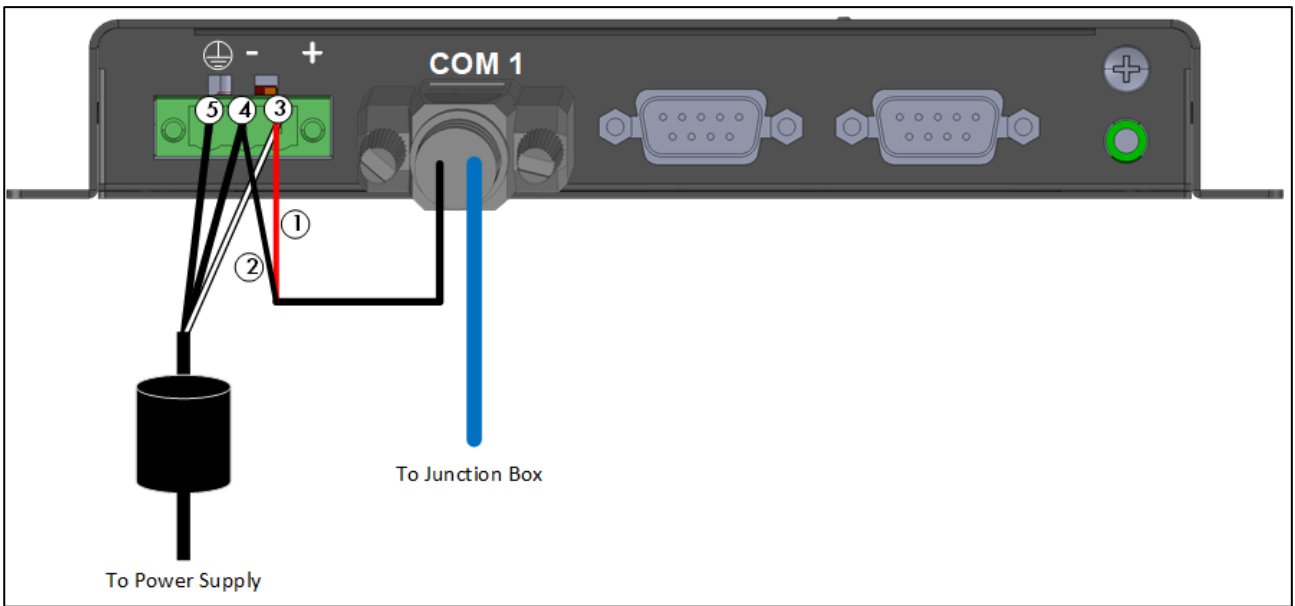

Figure 12: Junction Box Wiring to Comm-Box
2. Insert the two wires coming from the Junction Box cable into the ports (Figure 12).
\*These wires come preconnected to the Comm-Box. If they need to be reattached, place the white cable (#3) in the port as shown in Figure 12. Place both black cables into the ports as shown in Figure 12; either cable can be placed in either port.